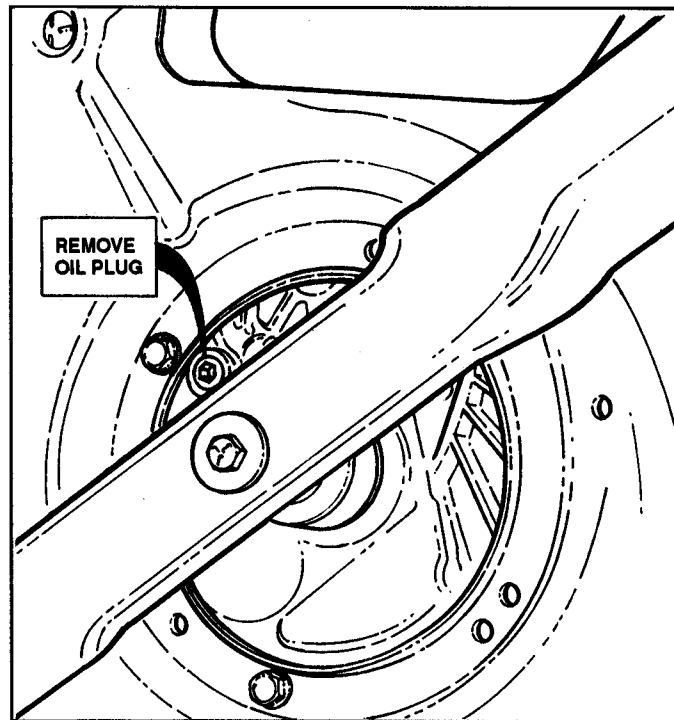

FIGURE 6
3. Tilt mower onto its LEFT side and remove the OIL PLUG as shown in Figure 6.